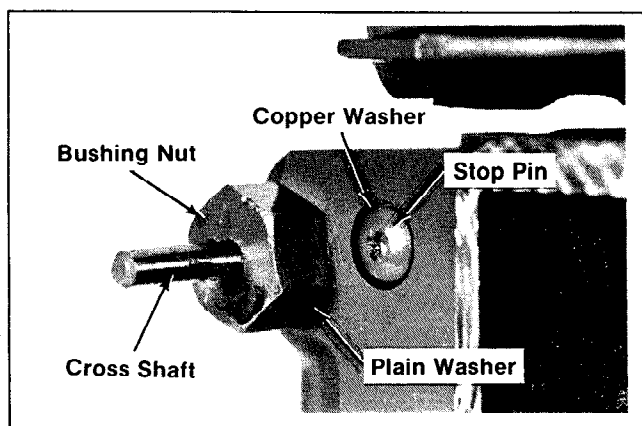

Figure 12-2. Installing Cross Shaft And Stop Pin.
3. Install the thrust washer, governor gear, copper washer, and stop pin. Refer to Figures 12-2 and 12-3.